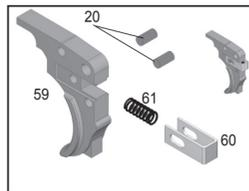
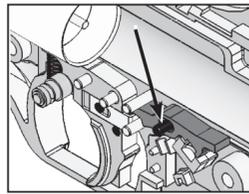

Figure 9: The Trigger is pulled from the right receiver half.
Figure 10: The black pin is hardened and must be installed in the position as shown.
- Remove the **Trigger** (59) assembly from the receiver. Be sure to retain the trigger return **Spring** (61, located in front of the Trigger, and not shown in Figure 9)
- To remove the **Trigger Return Slide** (60) and the **Spring** (61), you must first remove the upper **Return Slide Dowel Pin** (20) from the Trigger assembly.
- When re-assembling the Trigger and Sear, make sure the black **Sear Dowel Pin** (4) is in the location shown (arrow in Figure 10). The black pin is hardened, and it is critical that it be located in this position.